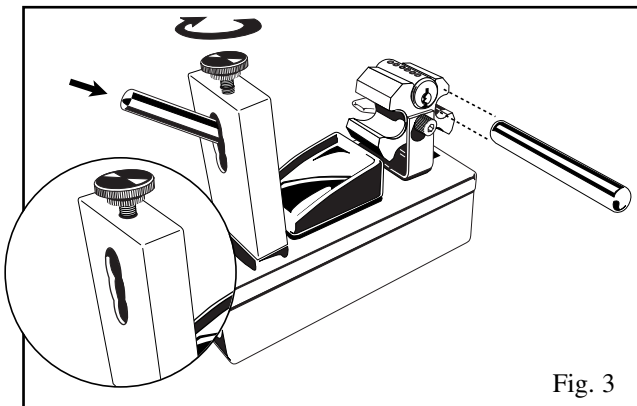

Fig. 3
3. Select correct size translucent follower and position into retainer and secure as shown in Fig. 3.